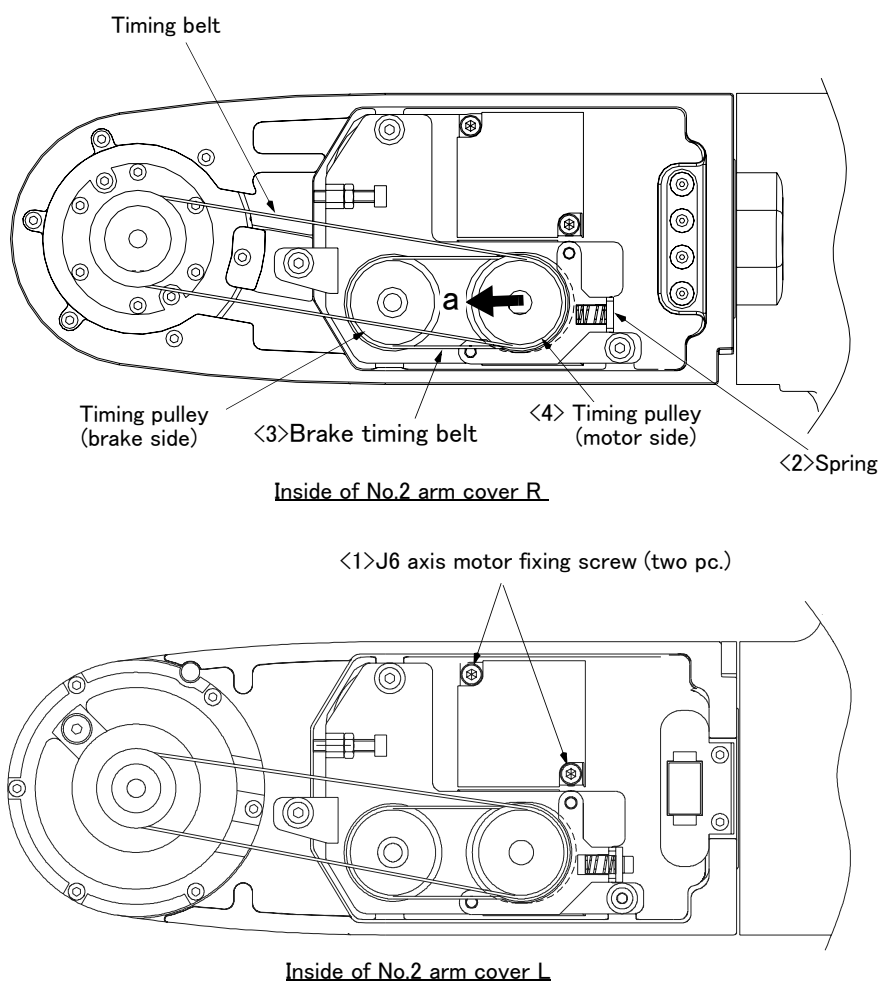

Fig.5-12 : Inspection, maintenance and replacement of J6 axis brake timing belt
The reference figure at inspection, adjustment, and replacement of the brake timing belt is shown in Fig. 5-12. After adjustment of J6 axis brake timing belt, the adjustment of the timing belt which rotates the J6 axis is also needed. Moreover, it is necessary to remove J6 axis timing belt for the replacement of brake timing belt.
- 3) Loosen motor fixing screw (1). (two pc.) (Do not loosen too much.)
- 4) Move motor side timing belt pulley (4) in the direction of the arrow “a” of Fig. 5-12 , and remove the brake timing belt..
(8) Timing belt tension